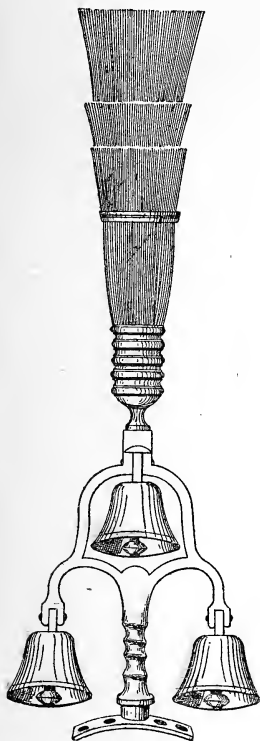

Fig. 79.
75) instead of tinned or japanned buckles, with brass face-pieces (Figs. 76 to 78) on the bridle to hang on the horse's forehead, brass bells for the bridle (Fig. 79), hame plates (Figs. 80 and 81) at the top of the collar between the two points of the hames or jables, with a strap across from one hame point to the other to hold it in position, brass squares,